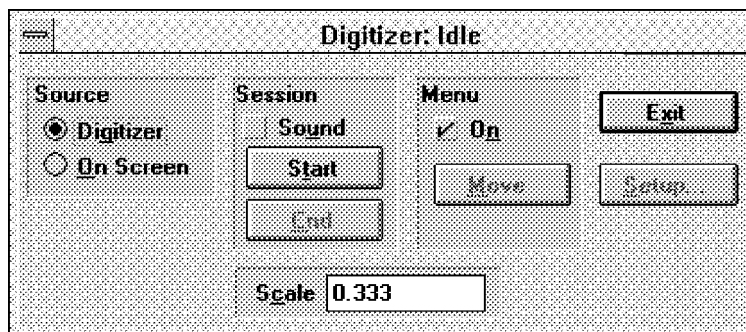

Figure 3-6
2. Highlight the current value in the Scale area of the Digitizer dialog box, and type in the determined scale factor value. Refer to Figure 3-6 where we typed .333 as our scale factor.